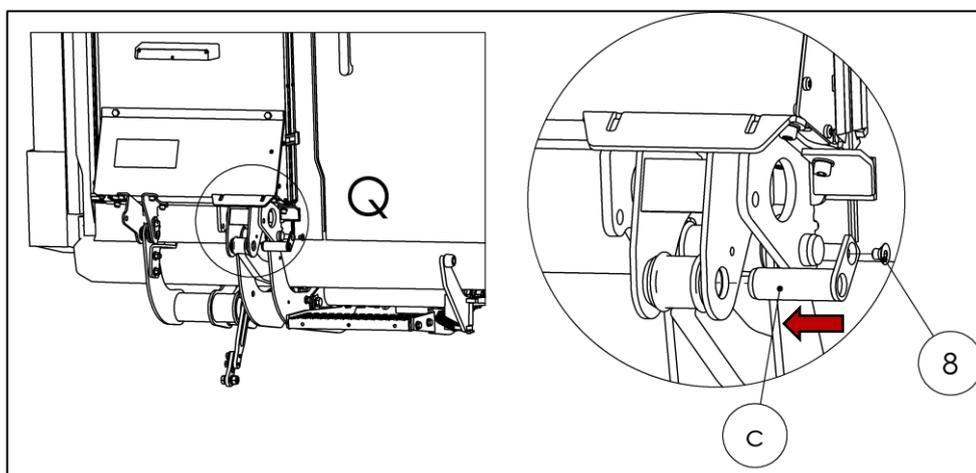

Fig. 62
- Mount the screw (8) from the accessories kit to secure the pin (Fig. 62).